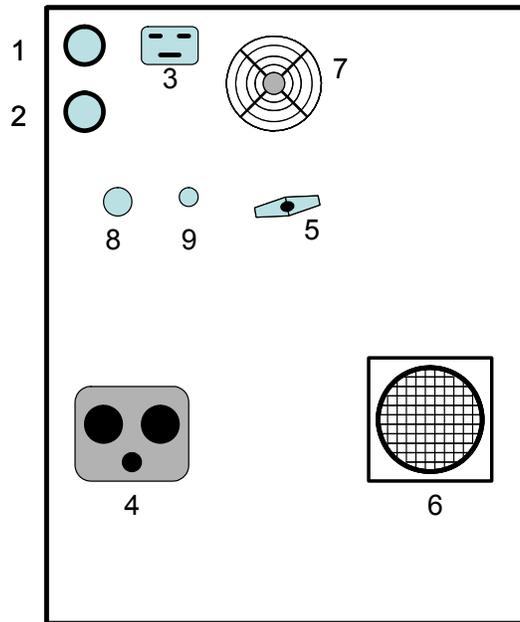

Figure 1-2. Rear Panel Connections
- Maintain adequate air clearances between the exposed High-Voltage conductor and any adjacent grounds to prevent spark-over. An uncontrolled spark-over can create a safety hazard. Also, ensure the air intake fan filter media (See Figure 1-2, No. 6) is clean and dry before each use.